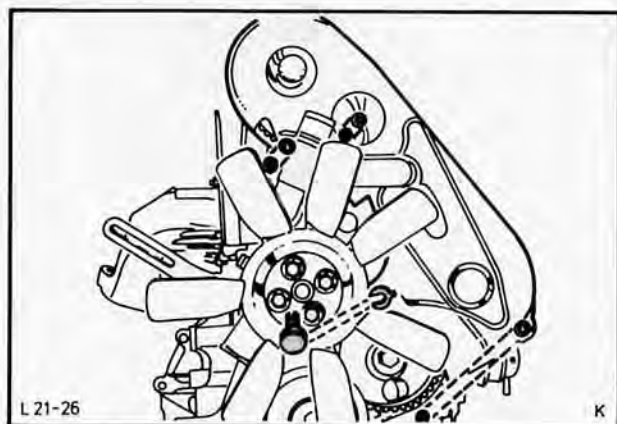

Fig. 77. Remove timing belt guard
5. Remove timing belt cover (3 bolts). Withdraw toothed belt guard to side of retaining bolt which also secures water pump, Fig. 77.